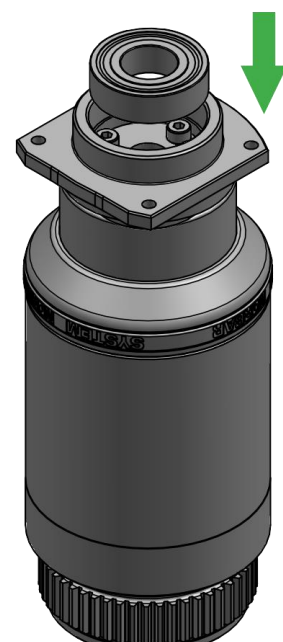

FIGURE 4 – Inserting 6003-2Z Ball Race
4. Insert the 6003-2Z ball race into the gearbox index plate. See figure 4.